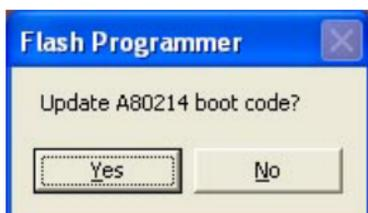

Figure 3:
4. Select **Yes** on the confirm update dialog box (See Figure 3).